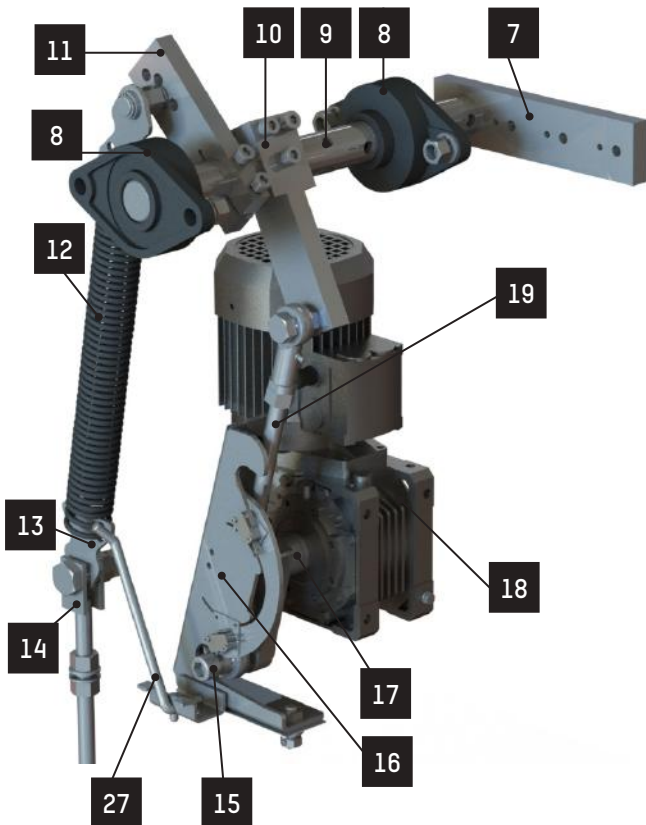

Fig. 2 - Component location - Mechanism
- This equipment's gearbox has been sealed with a plug for transportation purposes. The plug must be replaced with the vented plug located in the plastic bag fixed on the arm fastening clamp (Ref. 7, Fig. 2, page 6).